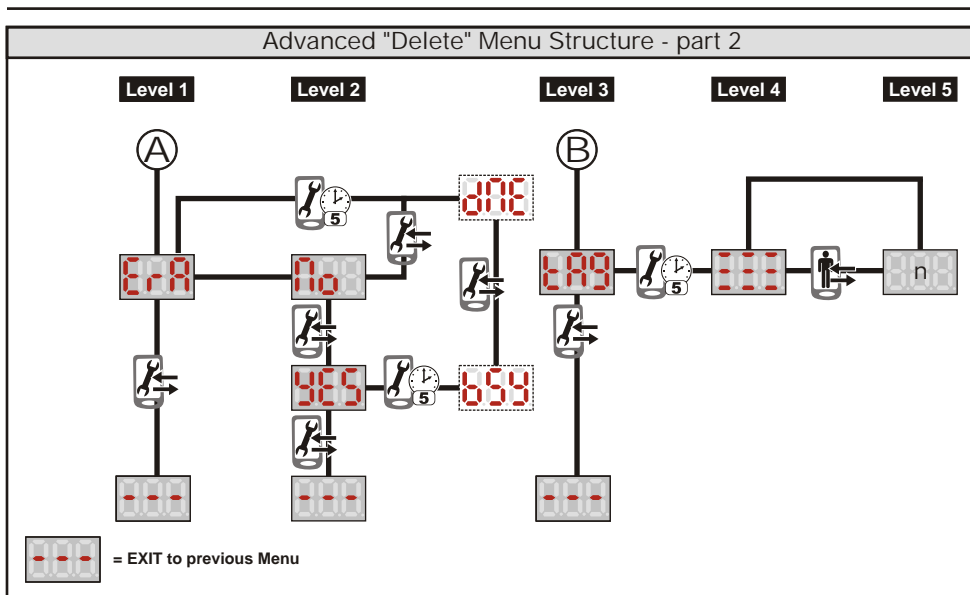

Fig 24 Part 2 of Advanced "Delete" Structure
- To next page Figure 24:** **12** → **012** → **012** → **Level 1**